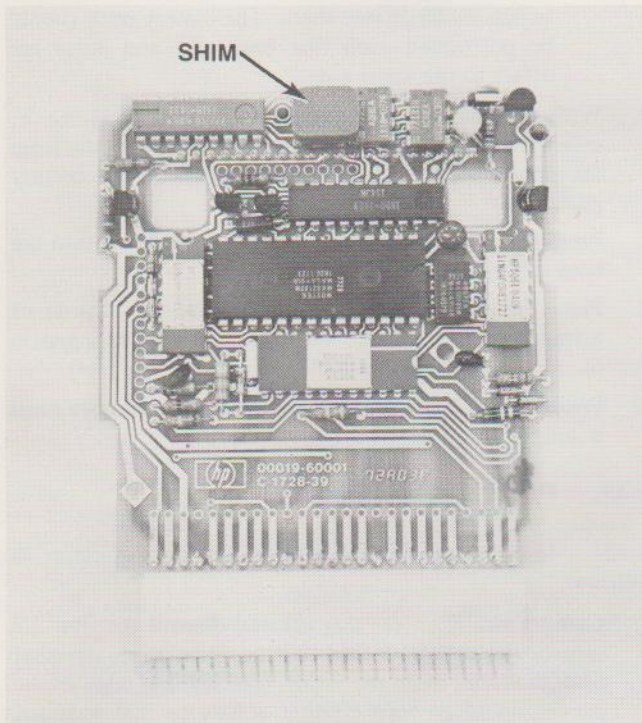

Figure 3-3. Rubber Shim Position
- a. Ensure that the 3/16-inch rubber shim is in position on U7 and is not loose. (See figure 3-3.)